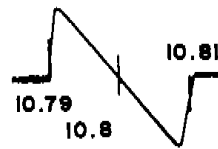

Figure 3
6. Adjust T5 so that 10.80 mhz is in center of discriminator curve and for best linearity. See Figure 3.